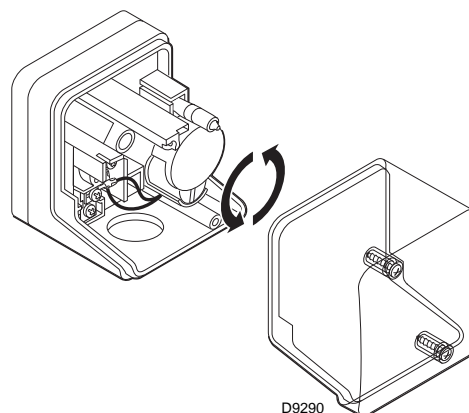

Fig. 51
- Adjust the minimum gas pressure switch to the start of the scale (Fig. 51).
Adjust the minimum gas pressure switch after having performed all the other burner adjustments with the pressure switch set at the start of the scale (Fig. 51).